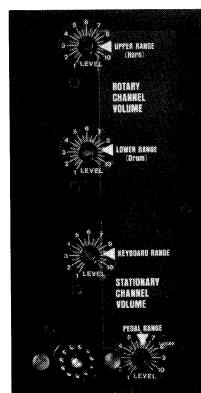

Fig. 1
All volume adjustments should be made playing the upper keyboard. Place a LEVEL decal over each volume control opening so the #6 is at the top of each hole (Fig. 1) if the amplifier does not already have decals.
2. Place a LEVEL decal over each volume control opening so the #6 is at the top of each hole (Fig. 1) if the amplifier does not already have decals.